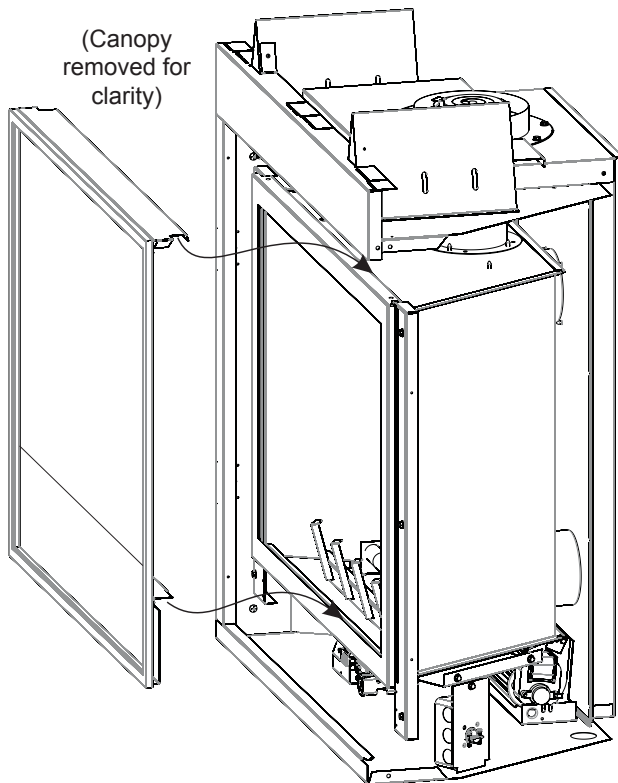

Figure 83
- Check the barrier screen for fit and structural integrity. **See Figure 83.**